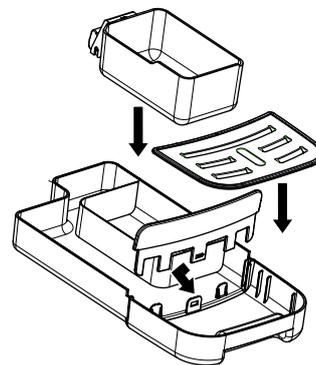

fig. 11: Drip tray assembly
12. Put the drip tray (fig. 11) and the other parts back together, and push the drip tray and the coffee-milk dispenser back into the appliance.